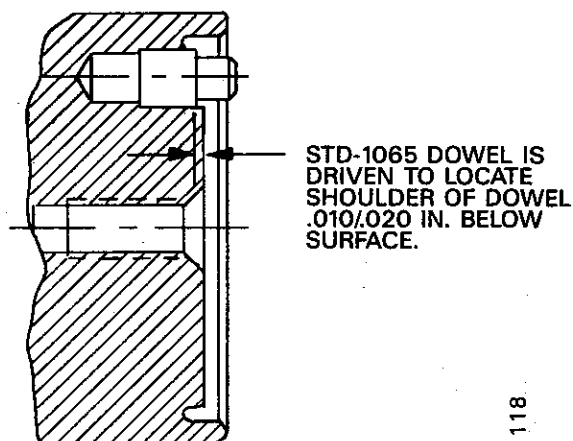
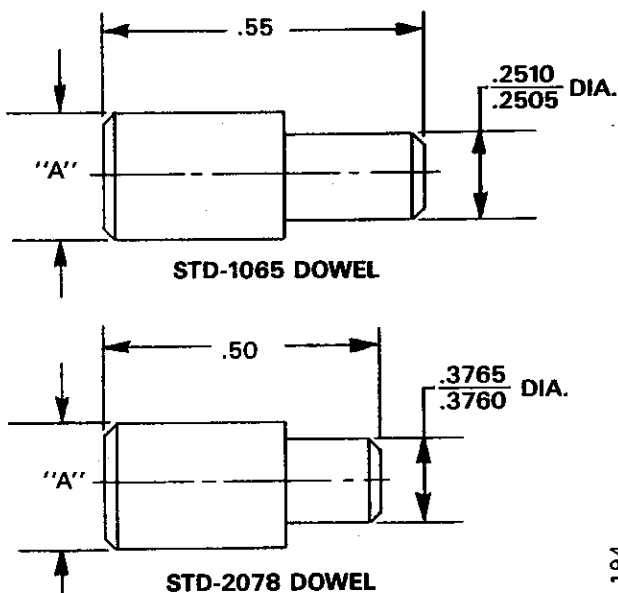

Figure 7-12B. Section Thru End of Crankshaft Showing Driven Height of STD-1065 Dowel
Figure 7-12C. Section Thru End of Crankshaft
2. Check the condition of the dowel in the end of the crankshaft. It should be perfectly smooth with no indication of nicks or deformation. If it is out-of-round, it should be removed and replaced with a new one. Replacement instructions are in step 4. If dowel condition is acceptable, insure that it is installed as shown in Figure 7-12B. or Figure 7-12C.